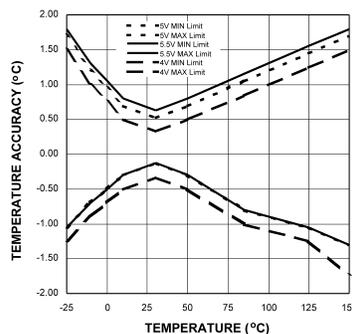
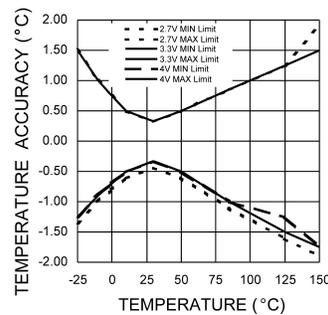

Figure 2. Accuracy vs Temperature with $+V_S = 5V$
Figure 3. Accuracy vs Temperature with $+V_S = 3.3V$
- (1) Typical values are at $T_A = 25^\circ C$ and represent most likely parametric norm.
- (2) Limits are guaranteed to National's AOQL (Average Outgoing Quality Level).
- (3) The limits found in Table 2 supersede the limits shown in the Electrical Characteristics Table. The Accuracy specification includes errors due to linearity, offset and gain. The accuracy specification includes effects of self heating with negligible digital output loading. Pull-up resistors should be maximized (10k typical recommended), so that self heating due to digital output loading is negligible.
- (4) Limits at intermediate temperatures can be calculated using a straight line interpolation as shown in Figure 2 and Figure 3.
- (5) Linearity Error is defined as the worse case difference of an actual reading to that of a calculated reading derived from the straight line whose endpoints are measured at $30^\circ C$ and $125^\circ C$ for the range of $30^\circ C$ to $125^\circ C$ or whose endpoints are measured at $30^\circ C$ and $-25^\circ C$ for the range of $30^\circ C$ to $-25^\circ C$.
- (6) Offset Error calibration should be done at $30^\circ C$. The residual error of the transfer function is then equivalent to the Accuracy Limit minus the Offset Limit. This does not take into account the power supply sensitivity of the offset error. Nor, does it take into account the error introduced by the calibration system used.
- (7) This specification is provided only to indicate how often temperature data is updated. The LM92 can be read at any time without regard to conversion state (and will yield last conversion result). If a conversion is in process it will be interrupted and restarted after the end of the read.
- (8) 12 bits + sign, two's complement
- (9) Default values set at power up.